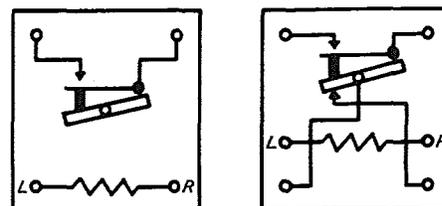

FIG. 9 - WINDING TERMINAL ARRANGEMENT AS VIEWED FROM THE REAR (TERMINAL SIDE)-87 TYPE RELAY
2.10 On those relays having only a front contact, the front contact is indicated by 1 and the armature by 2 as viewed from the front of the relay. On those relays having a front and back contact the top spring is indicated by 1, the spring that is picked up by the armature stud by 2, the armature by 3 and the back contact by 4. The relative positions and designations of the winding terminals as viewed from the rear of the relay are shown in Fig. 9.